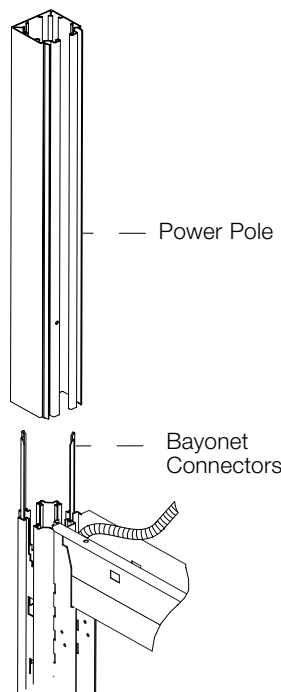

Fig. 4
5. Connect ceiling infeed to outer terminal block of power module. Feed ceiling infeed conduit through post connector (**Fig. 4**)